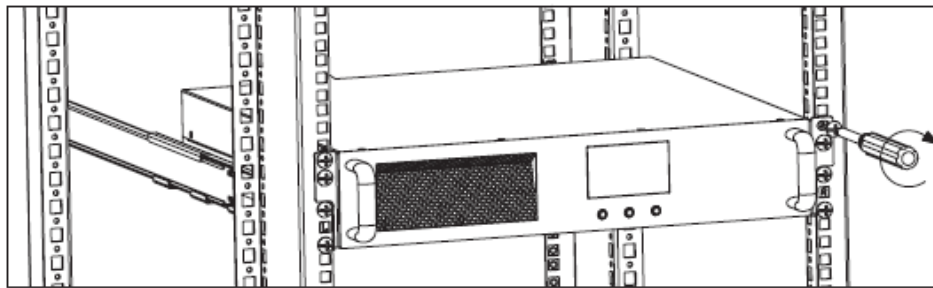

Figure 9
Step 5: Fasten each ear to the rack with the the M6 screws. Refer to Figure 9 below.